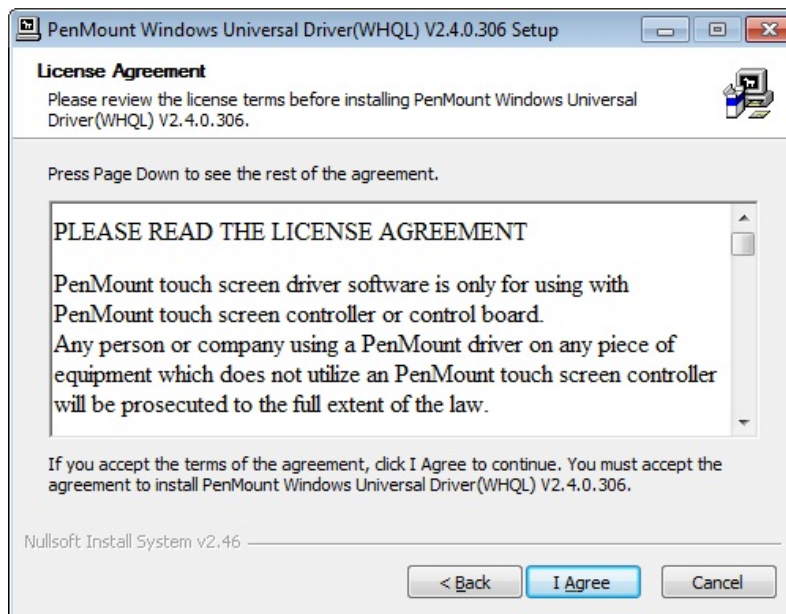

Figure 6-29: Touchscreen Driver License Agreement
Step 4: The license agreement in **Figure 6-29** appears.